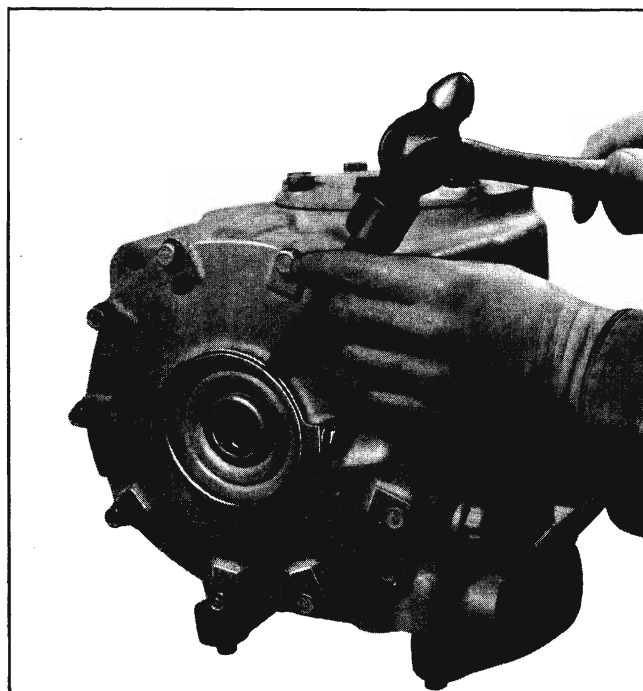

Fig. 4-27 Removing Side Bearing Oil Seal
4. Remove differential side bearing oil seals (Fig. 4-27.)